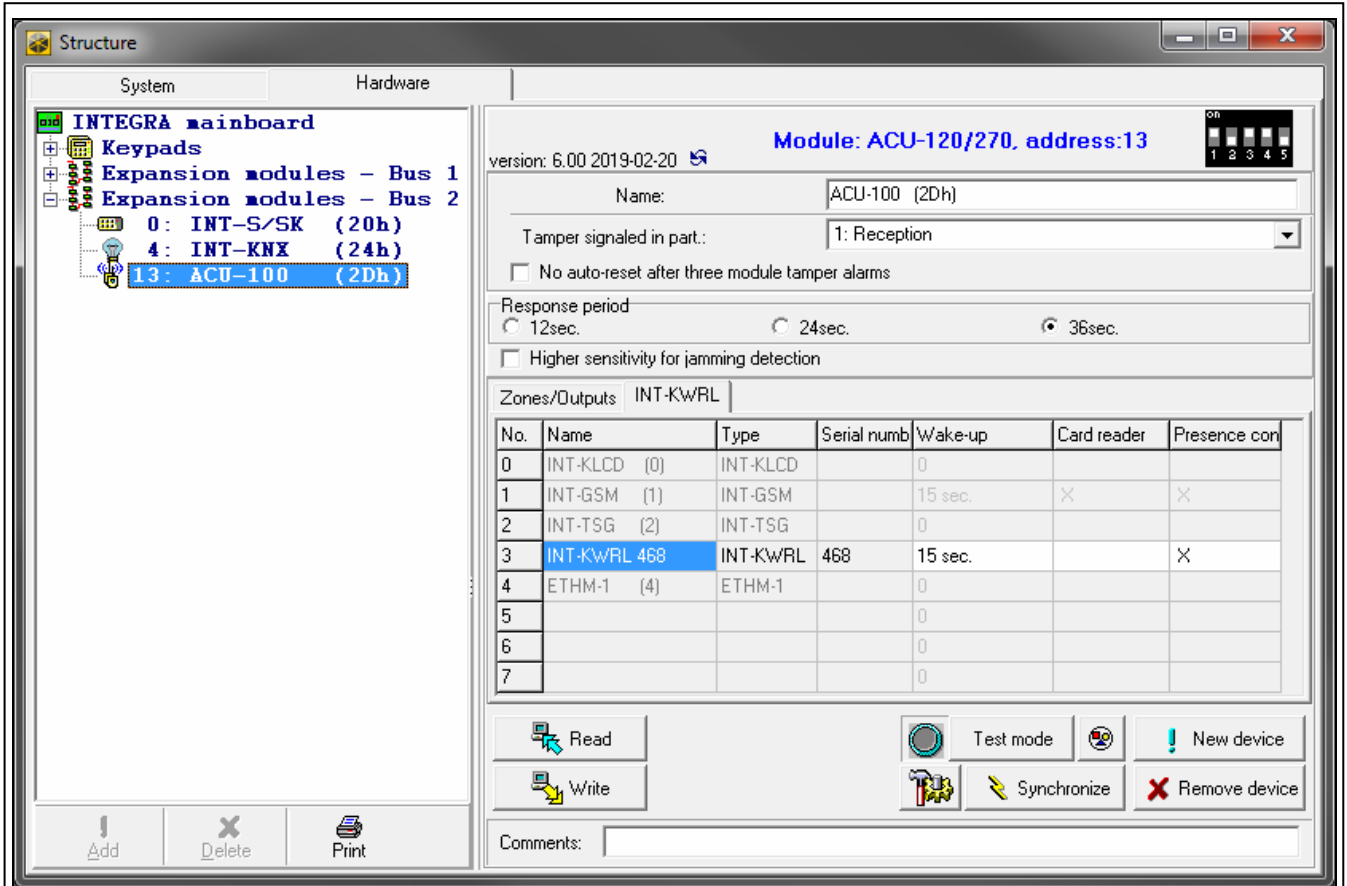

Fig. 4. DLOADX program: keypad settings stored in the ABAX 2 / ABAX controller.
You can add wireless keypad in the “Structure” window, “Hardware” tab, after clicking on the name of ABAX 2 / ABAX controller on the list of devices, and then on the “INT-KWRL” tab (see Fig. 4 p. 7).
You can remove the wireless keypads in the “Structure” window, “Hardware” tab, after clicking on the name of ABAX 2 / ABAX controller on the list of devices, and then on the “INT-KWRL” tab (see Fig. 4 p. 7).
- DLOADX program: →“Structure” window →“Hardware” tab →“Expansion modules” branch →[*controller name*] →“INT-KWRL” tab (see Fig. 4),